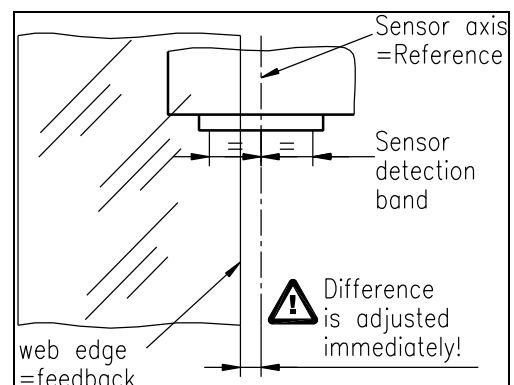

Fig. 12: Position at automatic start K
- Start automatic mode with  key or digital input. Reference position is taken from the middle of the sensor detection band (Fig. 12). Using center guide, reference position is in the middle between the 2 sensor axis. The controller starts to guide the web to reference position and to hold this guide point.